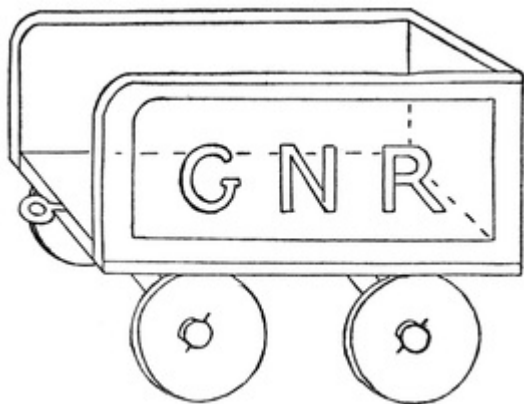

FIG. 233
(2) *The Tender* (Fig. 233) can be made in various ways. The bottom is best made of wood, 4 inches by 2¼ inches.